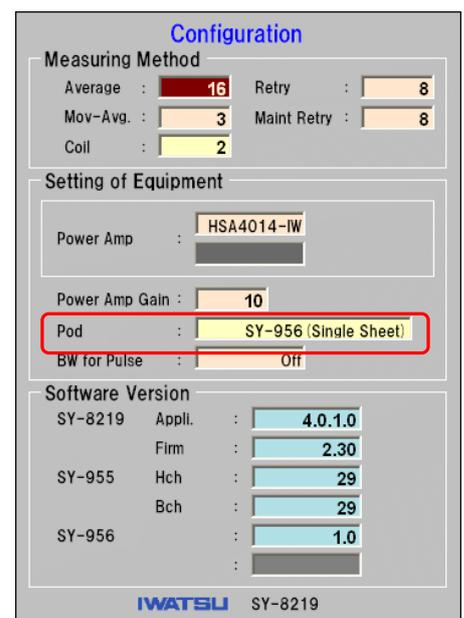

Fig. 4-17 Configuration screen
- Confirm that Setting of Equipment > Pod is SY-956 (Single Sheet). (See Fig. 4-17)